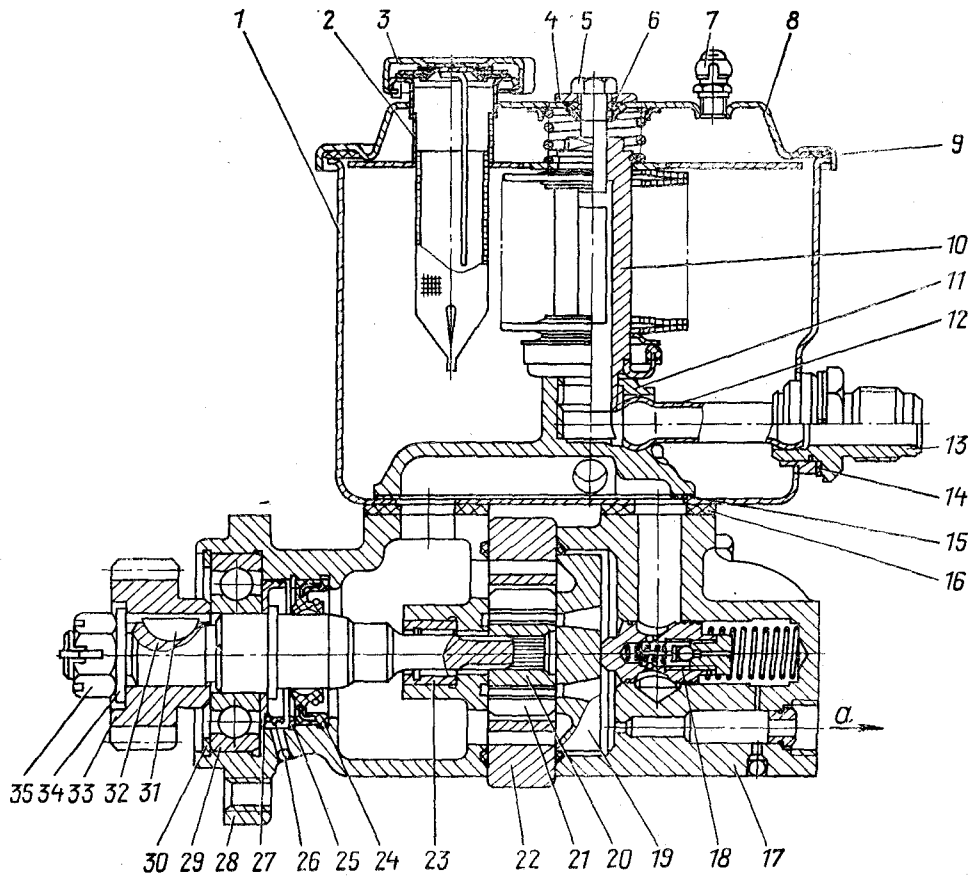

Fig. 96. Booster Pump:
Booster pump (Fig. 96) is a vane-type double-action unit. When the pump shaft rotates, the vanes are pressed to the stator curved surface under centrifugal force and pressure of the oil flowing under them. In the suction chambers the oil flows in-between the vanes, being then forced, when the rotor turns, to the delivery chamber.
5. Remove cover 8 (see Fig. 96), filter 2 and wash them.